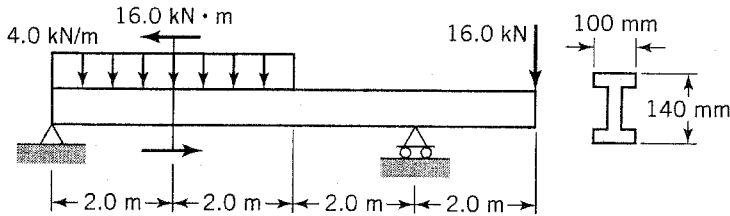

FIGURE P7.11
7.11. For the overhang beam shown in Figure P7.11, determine the maximum tensile flexural stress on sections just to the left and to the right of the section on which the 16.0 kN · m couple acts and their locations in the cross section. The flanges and the web of the cross section are all 20 mm thick.